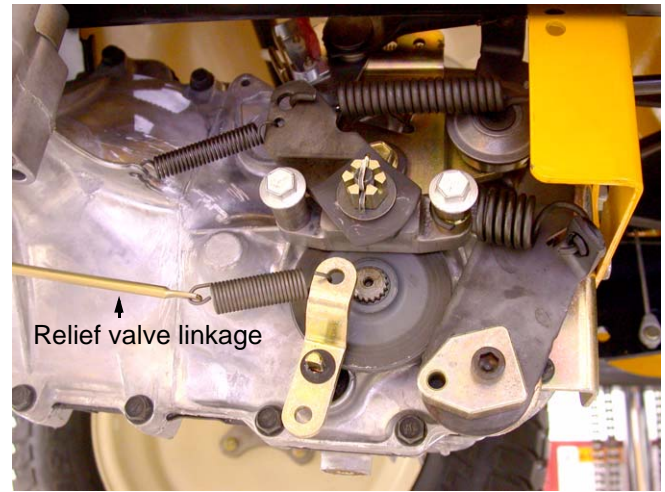

Figure 24.3
24.3. There is no adjustment to the relief valve, but full travel of the linkage should be checked if the drive system is losing power or ground speed. See Figure 24.3.